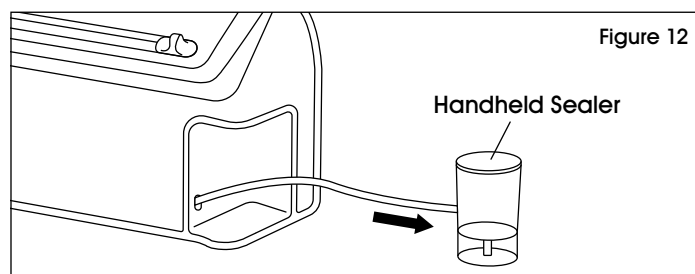

Figure 12
- Pull out the built-in retractable handheld sealer to desired length. (See Figure 12)